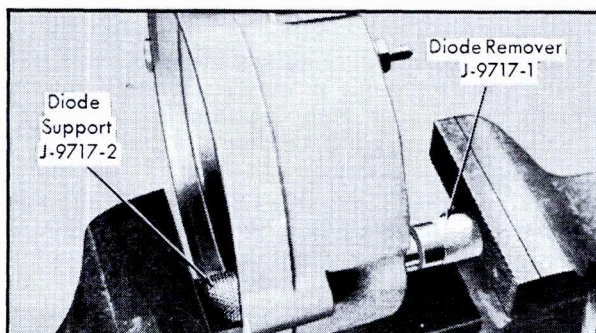

Fig. 6-28 Diode Removal
4. If necessary to replace diode, support inside of end frame or heat sink with Diode Support, J-9717-2, and press out diode with Diode Remover, J-9717-1, and a vise, Fig. 6-28.